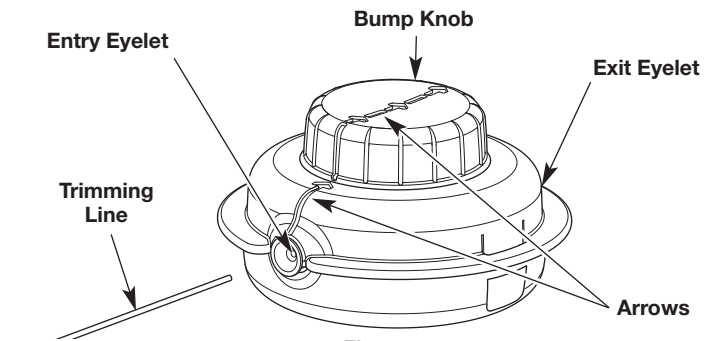

Fig. 14
- Turn the bump knob clockwise to align the arrows (Fig. 14).
- Insert the new trimming line into the entry eyelet (Fig. 14). Push the line through the cutting head until a few inches protrude from the exit eyelet. Pull the line until the ends are of equal length.